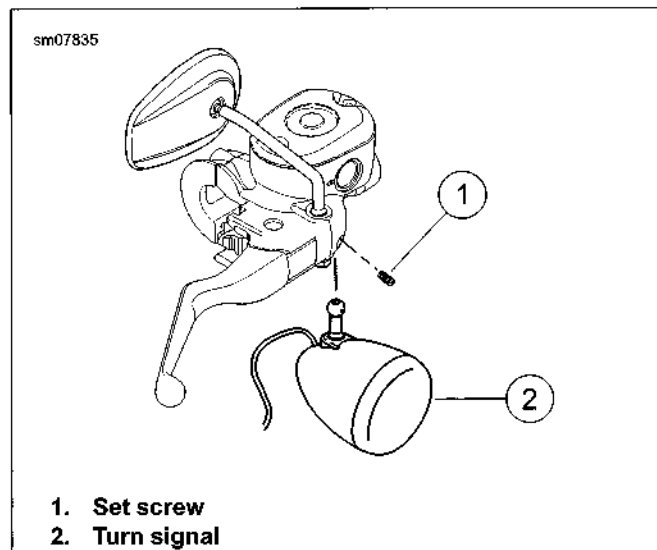

Figure 2-57. Turn Signal: XL Models except XL 1200T/X
10. **All Models except XL 1200T/X:** See Figure 2-57. Install turn signal.
- a. Insert turn signal (2).
- b. Start set screw (1) to capture turn signal.